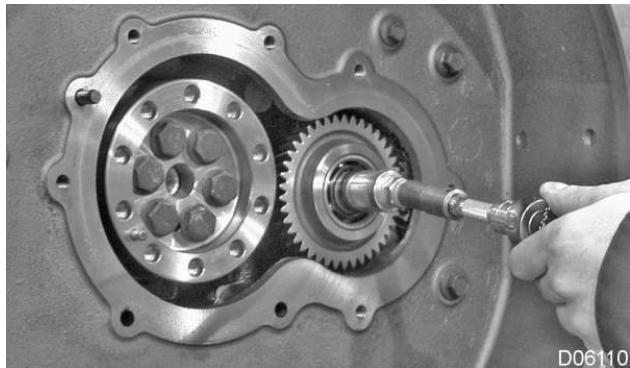

Figure 11 Remove Idler Gear Shaft (alternate method)
11. Using the old idler gear, a spacer, and a M6 bolt, remove the idler gear shaft (Figure 11).